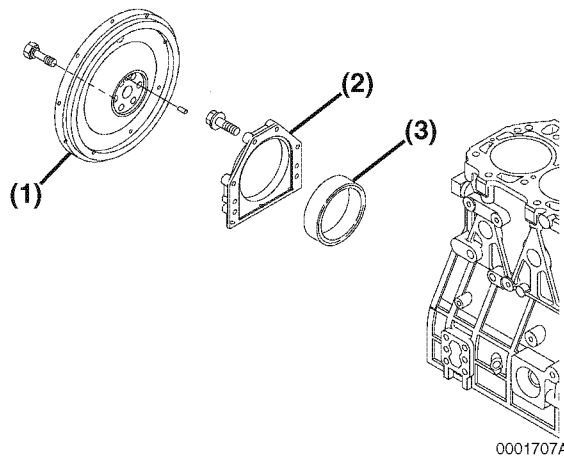

Figure 6-112
- Remove the rear oil seal (Figure 6-112, (3)) from the seal housing (Figure 6-112, (2)).
- Apply a continuous bead of ThreeBond Liquid Gasket No. 1212, Yanmar Part No. 977770-01212 to the outside diameter of a new oil seal (Figure 6-112, (2)), and install in the housing. Apply lithium grease to the lip of the seal.